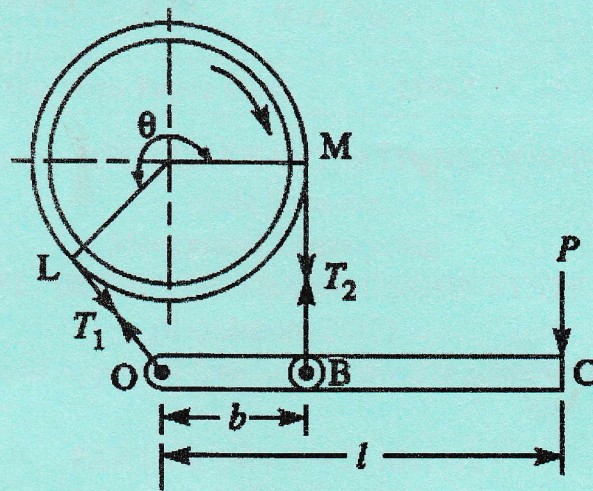

Figure 1
16. a) A Simple Band Brake is shown in Figure 1. and assume the following data:  $b = 250\text{mm}$ ;  $l = 750\text{mm}$ ;  $r = 250\text{mm}$ ;  $\theta = 225^\circ$ . The width of the friction lining is 60mm and the coefficient of friction is 0.4. The maximum intensity of pressure is  $0.25 \text{ N/mm}^2$ . Calculate (i) the band tension; (ii) actuating force; (iii) the torque capacity of the brake. 15,K3,CO6